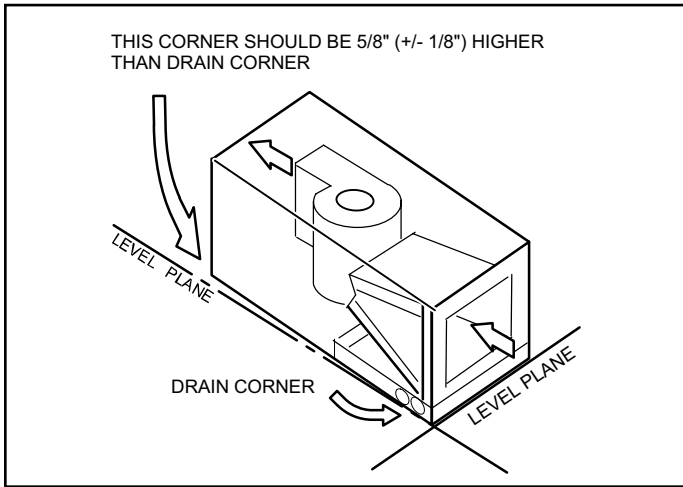

Figure 13. Sloping the Unit for Proper Drainage
3. Set unit so that it is sloped toward the upflow drain pan end of the unit and level from front to back of unit (see Figure 13).
Make sure the unit is sloped (similar to the slope shown in Figure 13) so that the drain pan will empty completely without water standing in the pan.